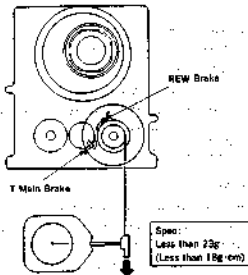

Fig. 1
- (1) Set the Tension Measurement Reel on the S Reel Table and put the Dial Tension Gauge at the end of the string.
- (2) Pull out the Dial Tension Gauge in the direction of the arrows and check that those readings meet the required specifications as shown in figures 1 and 2.
- (1) Set the Tension Measurement Reel on the T Reel Table and put the Dial Tension Gauge at the end of the string.
- (2) Pull out the Dial Tension Gauge in the direction of the arrows and check that these readings meet the required specifications as shown in figures 1 and 2.